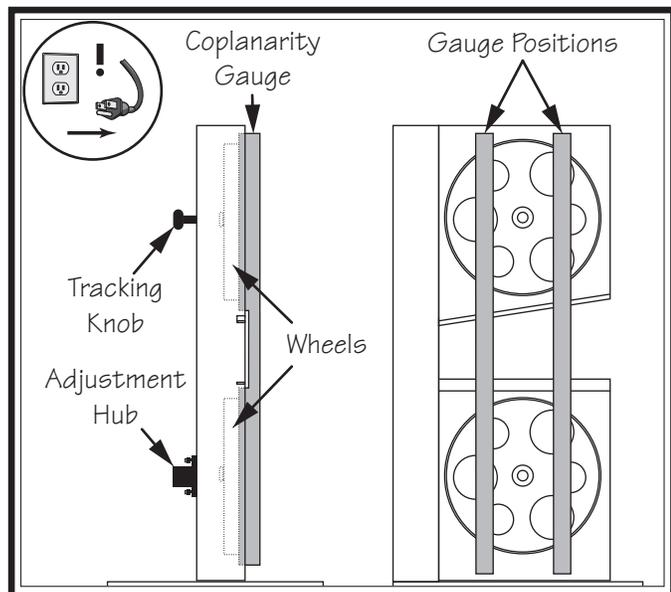

Figure 104. Illustration of using coplanarity gauge to check wheel alignment.
4. Place coplanarity gauge up against both wheels in positions shown in **Figure 104**. Make sure gauge fully extends across rims of both wheels.